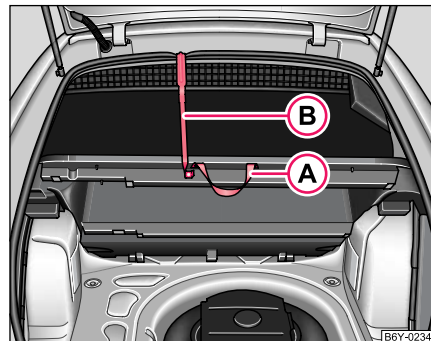

Fig. 173 Fixing the loading area floor in place using plastic hooks
- Lift the loading area floor on the grip ① then fix at tailgate cutout using plastic hooks ② (located under the loading area floor) ⇒ fig. 173. ■